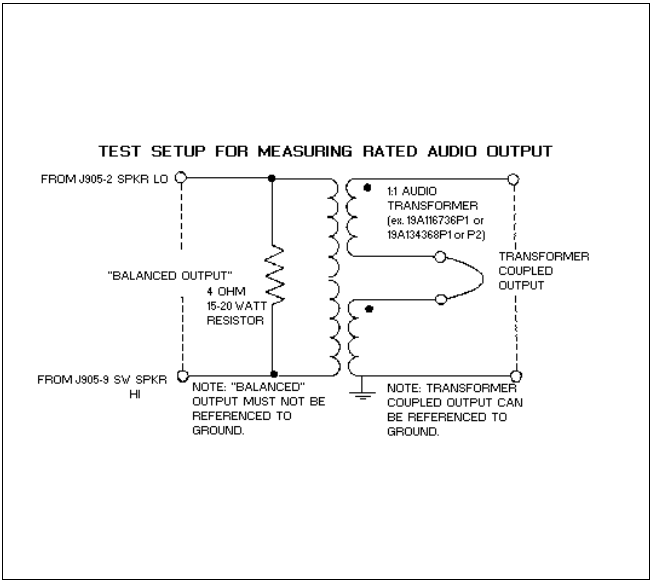

Figure 1 - Audio Output Test Setup
2. Check for greater than 12 dB SINAD on-channel at the Rx Audio output, on the TQ3310 or external speaker leads of option connector J905-2,9 (see Figure 1)
- 2. Monitor option connector J905-2,9 and adjust volume for 10 watts output (6.3 Vrms into 4 ohms). Distortion should be less than 5%. NOTE: The 10 watt audio output has "balanced outputs" and must be tested with the test setup shown in Figure 1.